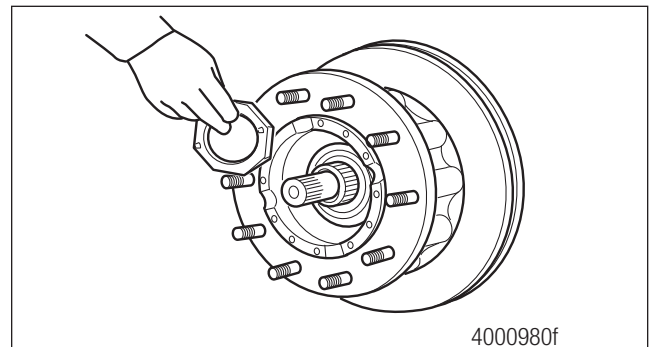

Figure 13.16
1. Install the inner wheel bearing adjusting nut onto the spindle against the outer bearing. Tighten the adjusting nut while rotating the hub in both directions to seat the bearings. See Section 17 Torque Specifications on page 64. Figure 13.16.